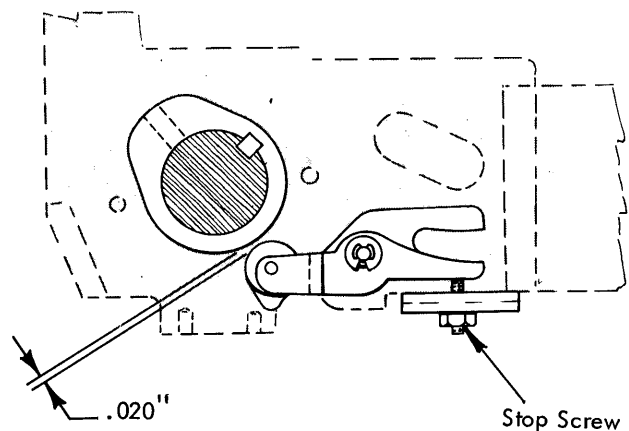

FIGURE 142.2 Print Cam Follower Stop Screw
7. **Print Cam Follower Stop Screw** - Adjust the cam follower stop screw so that the print cam follower roller clears the print cam by .020" when the machine is at rest (Fig. 142.2). This clearance ensures that the rocker will restore fully on every cycle. On dual velocity machines, this clearance allows the roller to shift from one lobe to the other without rubbing on the cam. Use the following procedure to obtain this adjustment: